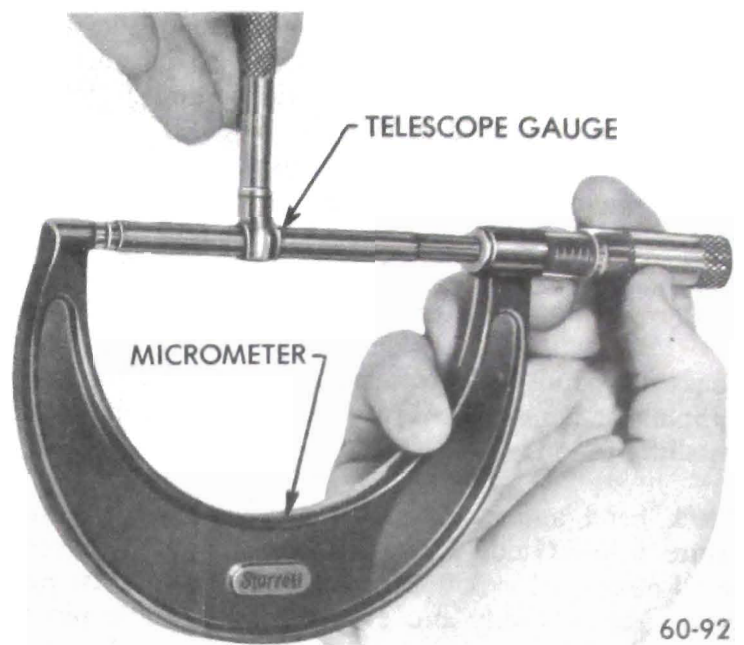

Figure 60-41 - Measuring Telescope Gauge
2. Measure the telescope gauge. See Figure 60-41.